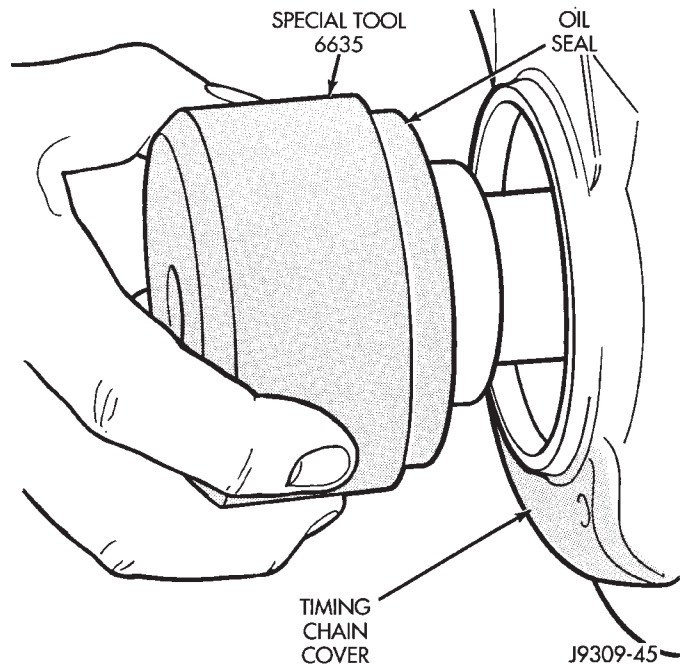

Fig. 50 Position Tool and Seal onto Crankshaft
- (2) Position the seal and tool onto the crankshaft (Fig. 50).